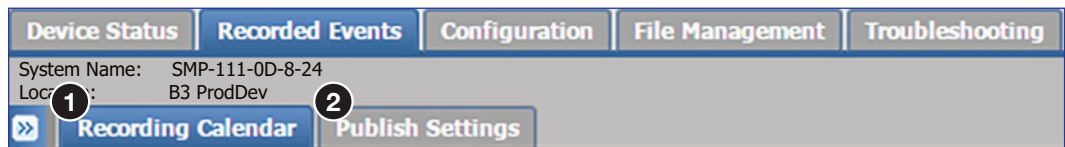

Figure 24. Recorded Events Page and Subtabs
The **Recorded Events** page has two secondary pages, **Recording Calendar** (see figure 24, ①) and **Publish Settings** (②). These pages allow administrators to view past and present recordings, publish (upload) recordings, and review the status of recordings.